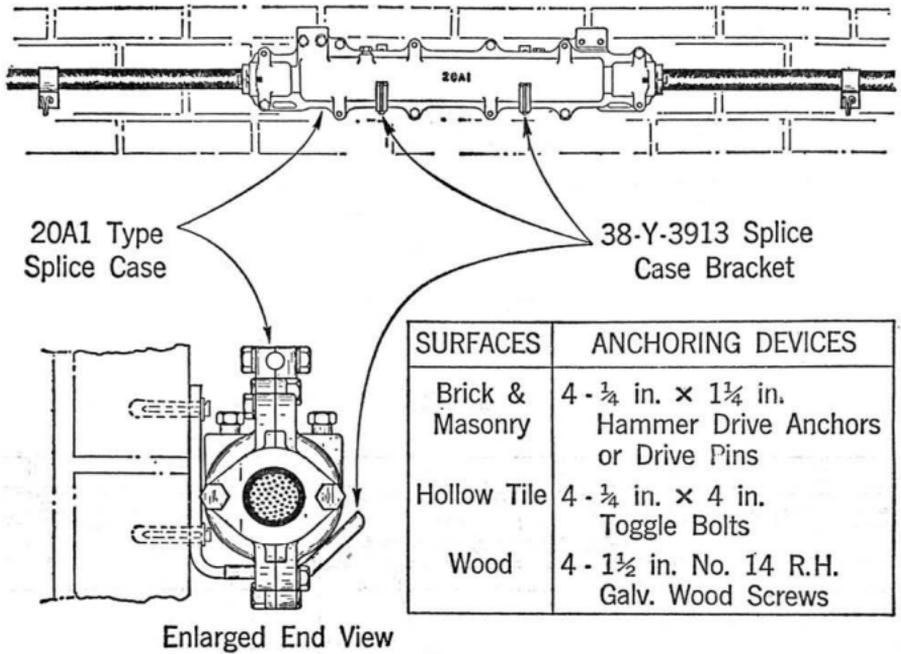

Fig. 18
5.03 Where it is desirable to place a splice case close to the wall a 38-Y-3913 Splice Case Bracket may be used as shown in Fig. 18.